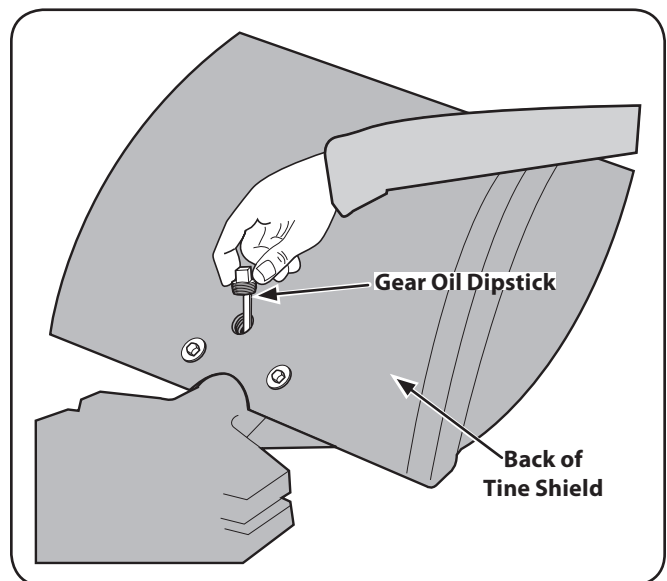

Figure 6-7
NOTE: Two different gear oil checking procedures for the tine attachment transmission are described next. Use the first procedure if the dipstick in your tine attachment has only a 'Check Cold' marking. Use the second procedure if the dipstick has both cold and hot markings at the end. First remove the dipstick from the tine attachment transmission to see which type of dipstick you have. See Figure 6-7. Then replace the dipstick with the markings on the dipstick facing to the rear.
6. Loosen and remove the transmission dipstick on the back of the tine shield. See Figure 6-7. Wipe it clean with a rag.
7. Hold the dipstick so its markings face to the rear of tiller. Lower it straight down into the sump hole to touch the drive shaft inside. See Figure 6-7. Don’t force or try to thread it back in; an incorrect reading will result.
2. Using a ¾" wrench (or socket), remove the bolt securing the handlebar base to the top of the transmission (prop the handlebars first to prevent them from falling). Then, unplug the Forward Interlock wire harness receptacle at the bottom of the handlebars. Set the handlebar base and bolt aside on a clean surface. The bolt hole in the top of the transmission is the gear oil fill hole. See Figure 6-7.
3. Slowly pour gear oil through a clean funnel into the transmission. Stop when gear oil begins to flow from the oil level check hole on the left side of the transmission. See Figure 6-7.